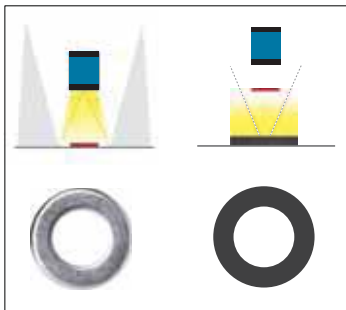

Figure 3: Back-lighting
- **back-lighting** based on the shadow play principle, makes it possible to obtain more sharply contrasted contours. Object = black, light = white (Figure 3).